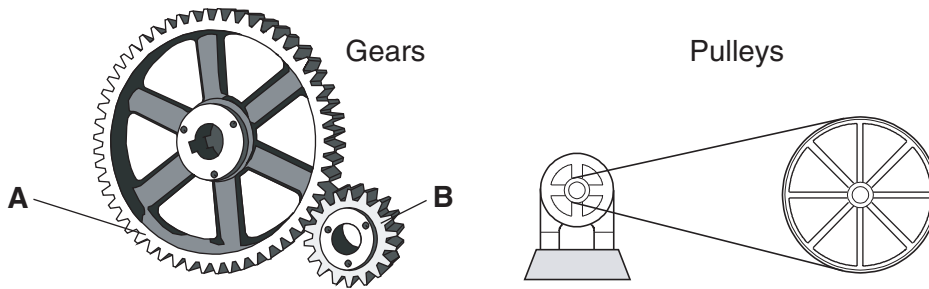

Fig. 1
- (b) Fig. 1 shows a simple gear and a simple pulley arrangement.